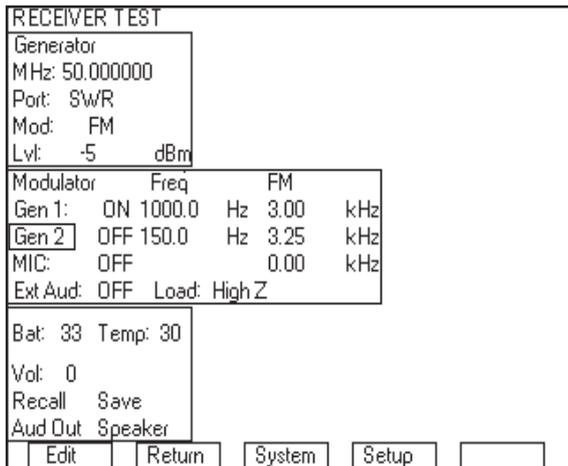

Figure 6 - RECEIVER TEST after initial setup
15. The Receiver test should now look like Figure 6 (slightly different for AM or SSB modulation).